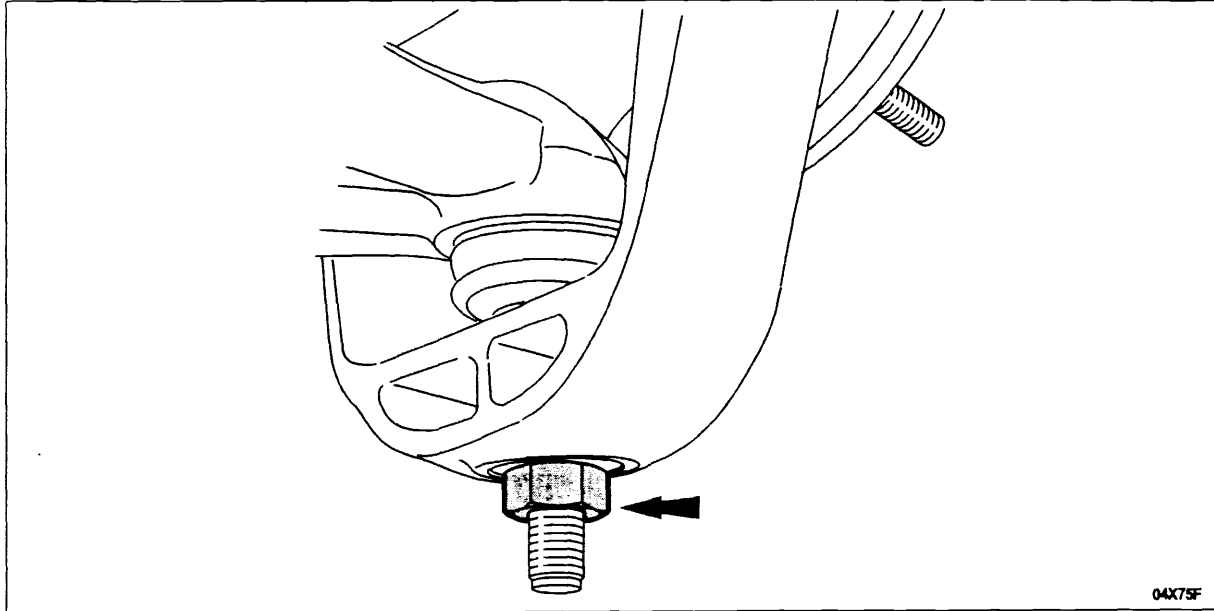

FIGURE 6
7. While holding the internal hex holding feature on the stud with a metric hex key (Allen wrench), remove and discard the lower control arm-to-knuckle ball stud nut. See Figure 6.